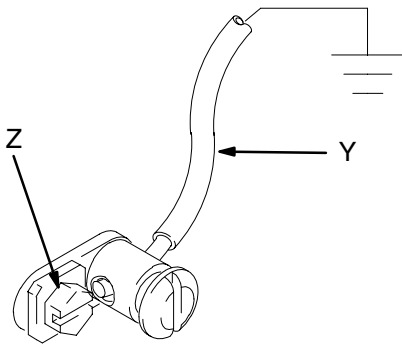

Fig. 1
2. *Pump*: use a ground wire and clamp. See Fig. 1. Remove the ground screw (Z) and insert through the eye of the ring terminal at end of ground wire (Y). Fasten the ground screw back onto the pump and tighten securely. Connect the other end of the wire to a true earth ground. Order Part No. 222011 Ground Wire and Clamp.